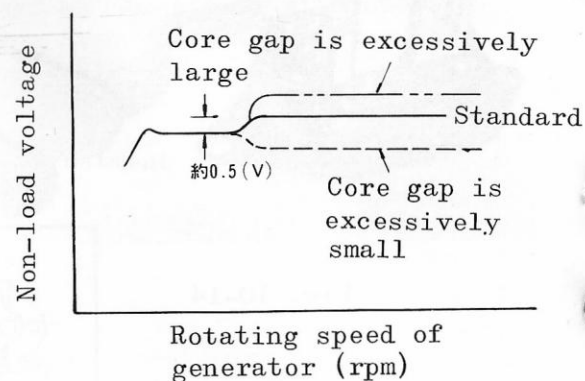

Fig. 10-18
9) When the generator is properly adjusted, the output voltage becomes as illustrated in Fig. 10-18.